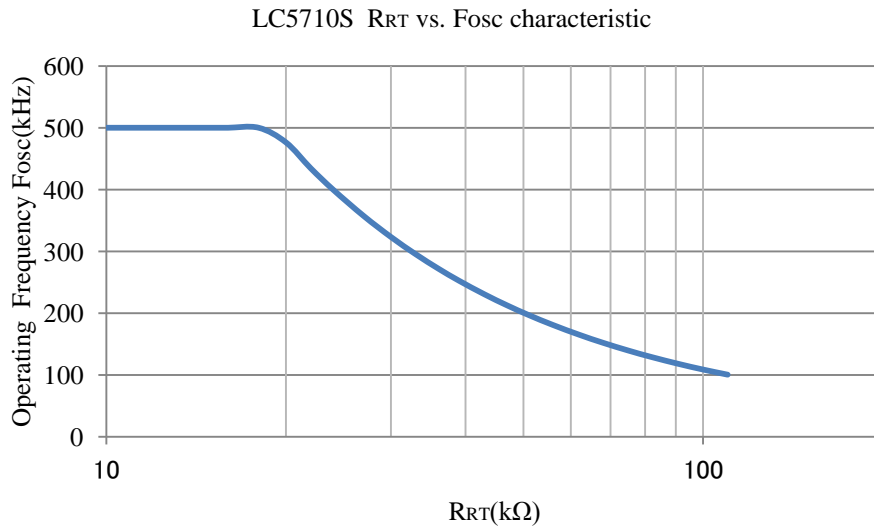

fig.6 RRT vs. Fosc
The operating frequency of the LC5710S is adjustable with the value of “setup resistor RRT” that is connected between RT terminal (2 pin) and GND terminal (3 pin). This frequency Fosc can be calculated with an equation (1). The relations of the frequency to the resistance value of RRT are shown in the fig. 6.